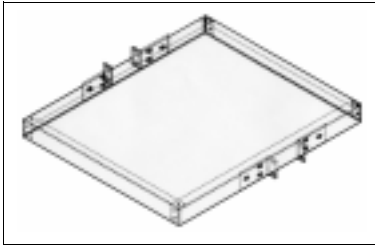

Figure 1 - Finished Bracket Installation
- c. Repeat steps 1a and 1b for the remaining three brackets. The finished installation should look like Figure 1.